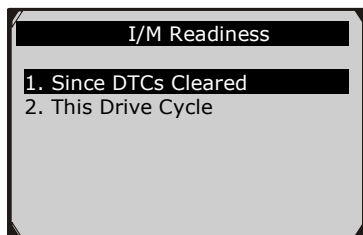

Figure 6.21
- 3) If the vehicle supports both types of tests, both are displayed on the screen for selection. (Figure 6.21)